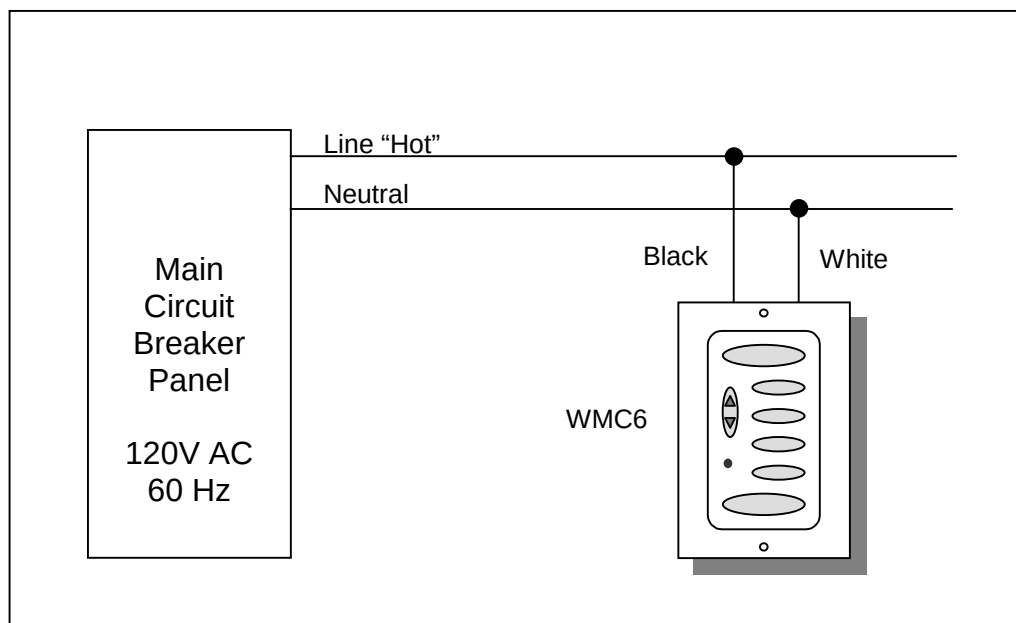

Figure 2: Wiring Diagram
- 2) Connect the WMC6 to the following electrical wires (see Figure 2 for reference):